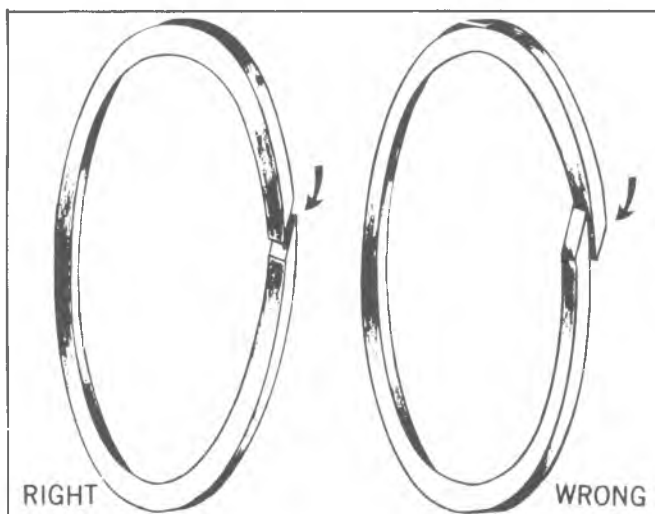

Fig. 7A-2A--Teflon Oil Seal Rings
3. When installing angle cut seal rings, do not overstretch. Make sure cut ends are in same relation as cut (Fig. 7A-2A). Also, make sure rings are seated in the grooves to prevent damage to the rings during reassembly of mating part over rings. Retain with petrolatum.